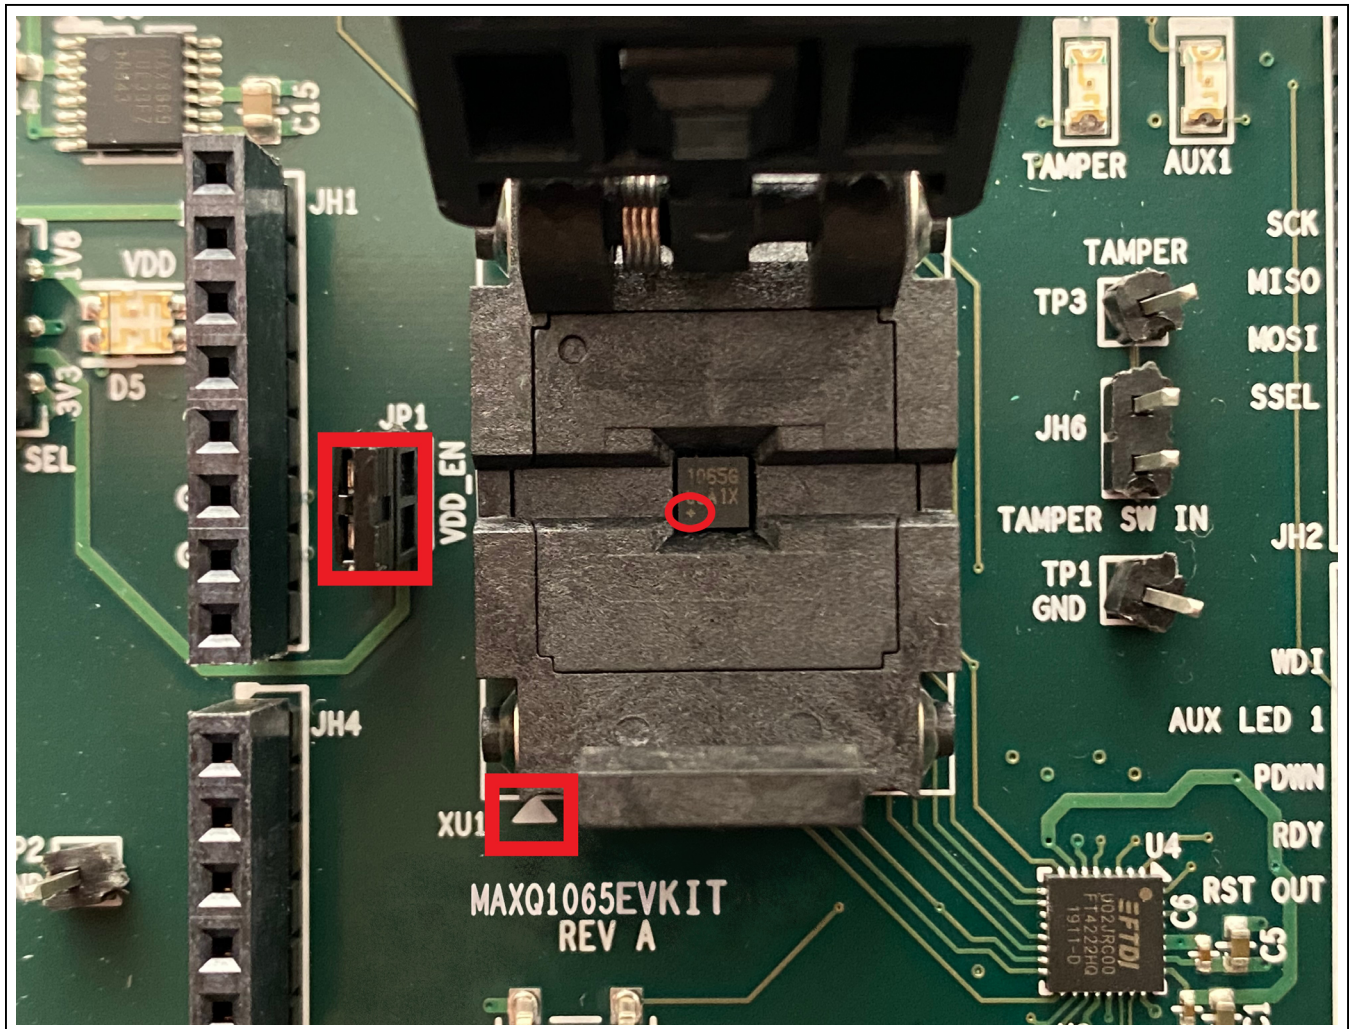

Figure 1. Proper Configuration of the MAXQ1065 Socket Board
Note: The plus (+) on the package must be aligned with the white arrow on the PCB, as shown in Figure 1.
- 2) Install a jumper on VDD_EN (JP1), as shown in Figure 1.